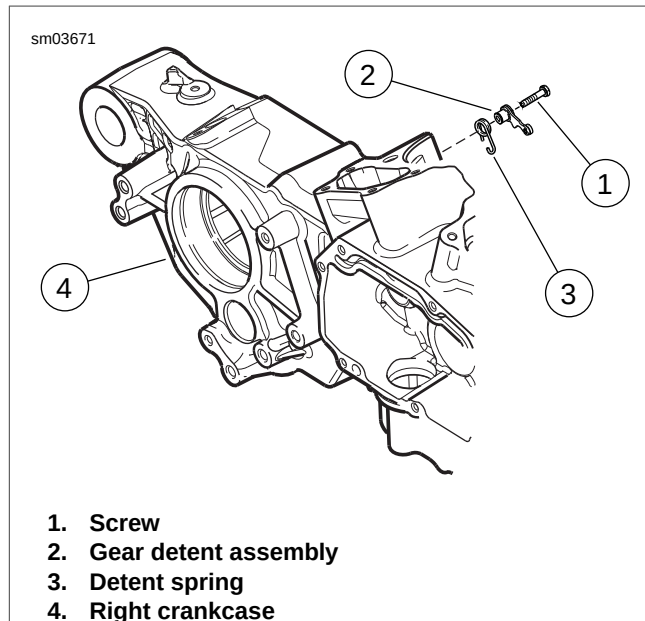

Figure 5-58. Gear Detent Assembly
16. See Figure 5-58. Remove screw (1), gear detent assembly (2) and detent spring (3) from inside transmission cavity of right crankcase (4).